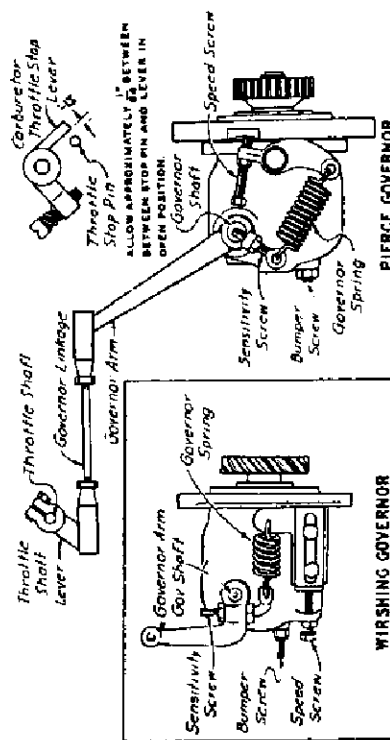

FIG. 6 - GOVERNOR ADJUSTMENT
**GOVERNOR.** - The governor controls the speed of the engine, and therefore the voltage and frequency of the current. Proper governor adjustment may be made as follows, referring to Fig. 6. Use a voltmeter while making the adjustments. If a voltmeter is not available the speed should be checked with a tachometer.